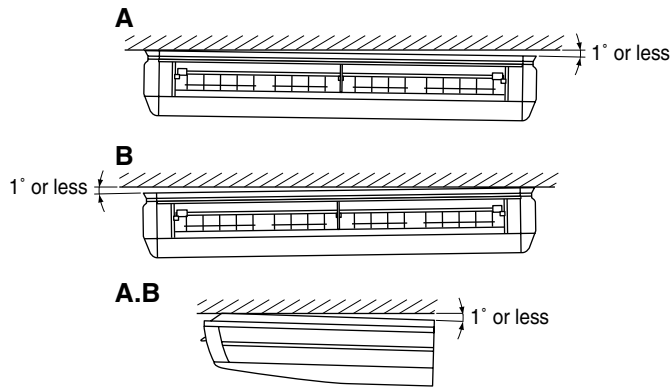

Fig. 12
- (5) When hanging the indoor unit main body, be sure to use a level or a plastic tube with water in it to make sure the drain piping is set either level or slightly tilted, in order to ensure proper drainage. (Refer to Fig. 12)